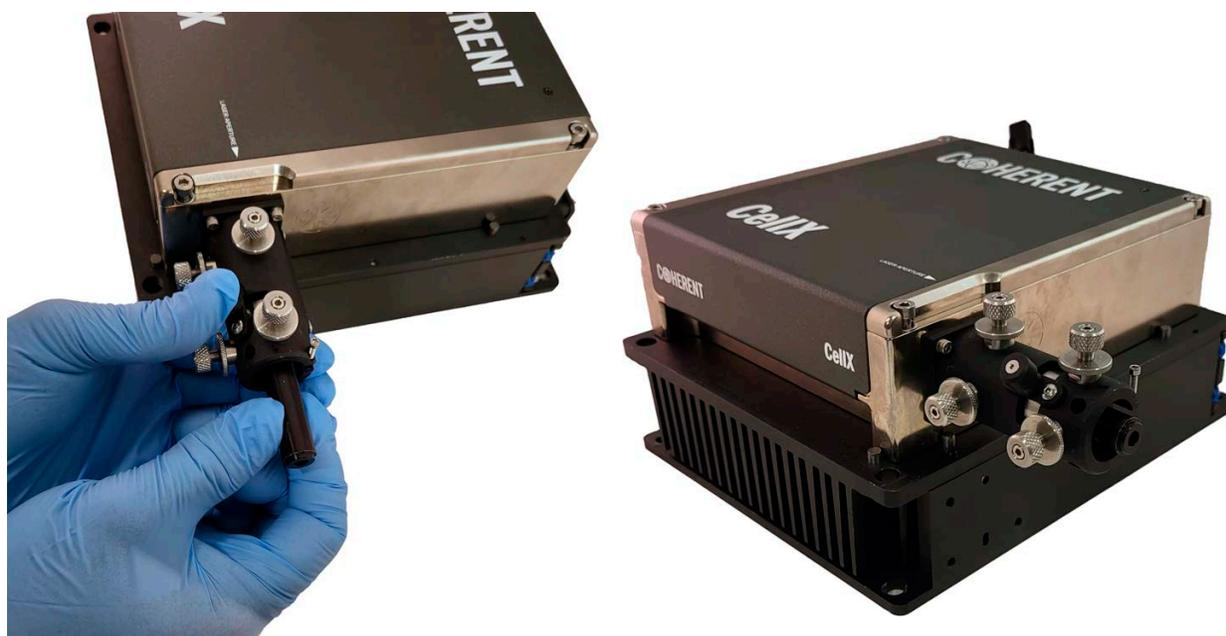

Figure 8-41. Tube Inserted with Aperture (beveled) End in Last
- f.) Then, push and hold the release/hold button, and re-insert it with the opposite (aperture, pin-hole) end of the tube, into the output (farthest from the laser) side of the launcher first. Refer to Figure 8-41.